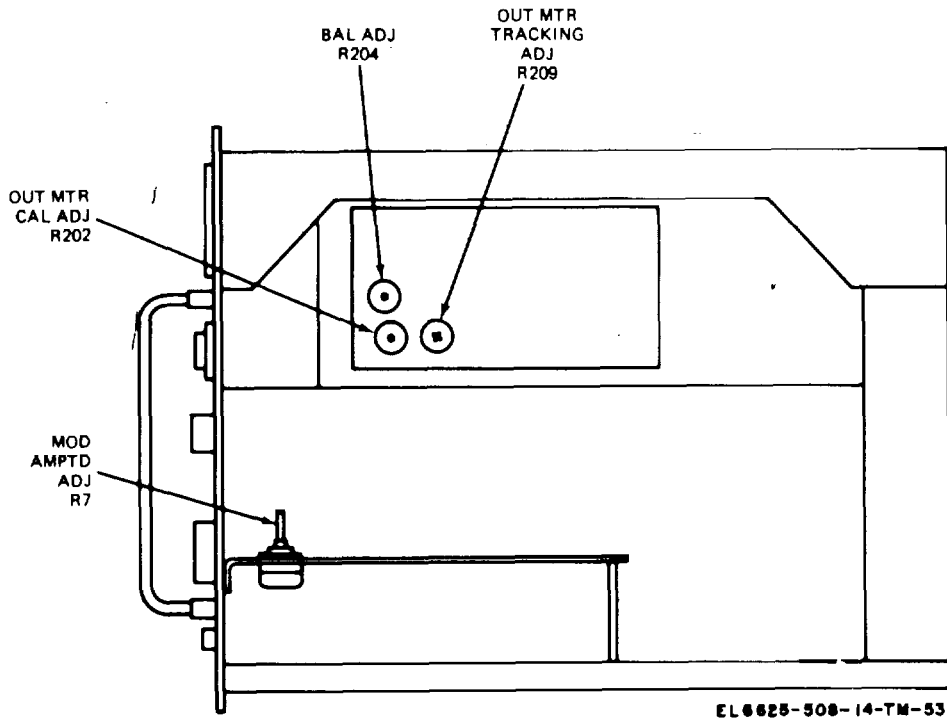

Figure 6-24. ALC circuit board and modulation oscillator adjustment location.
(3) Adjust R7 (fig. 6-24) to obtain an indication of 2 volts rms. If this indication cannot be achieved within the range of R7, replace DS1 until correct level is obtained.
(3) Refer to figure 6-24. Adjust potentiometer R204, BAL ADJ, to the point where the voltage indication of ME-26/U just stops increasing. The voltage should be equal to or greater than 30 volts.
(8) Center rf amplifier C turret coil laterally across the attenuator pickup probe loop; then position the coil about 1/16-inch from the end of the attenuator waveguide.
(9) Refer to figure 6-24, and adjust R202 (OUT MTR CAL ADJ) until the signal generator's RF OUTPUT meter indicates + 13 DBM; then adjust the RF OUTPUT control until the wattmeter indicates -4 DBM. Refer again to figure 6-24, and adjust R209 (OUT MTR TRACKING ADJ) until the signal generator's RF OUTPUT meter indicates +4 DBM. Now repeat steps (3) and (4) until there is no interaction between R202 and R209.